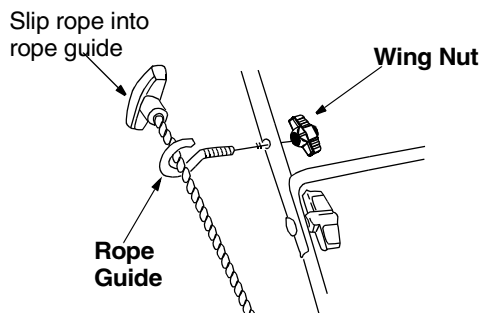

Figure 5
- With the spark plug wire disconnected and grounded, hold the blade control handle against the upper handle, and pull the starter rope out of the engine. Release the blade control handle. Slip the starter rope into the rope guide. Tighten the wing nut. See Figure 5.